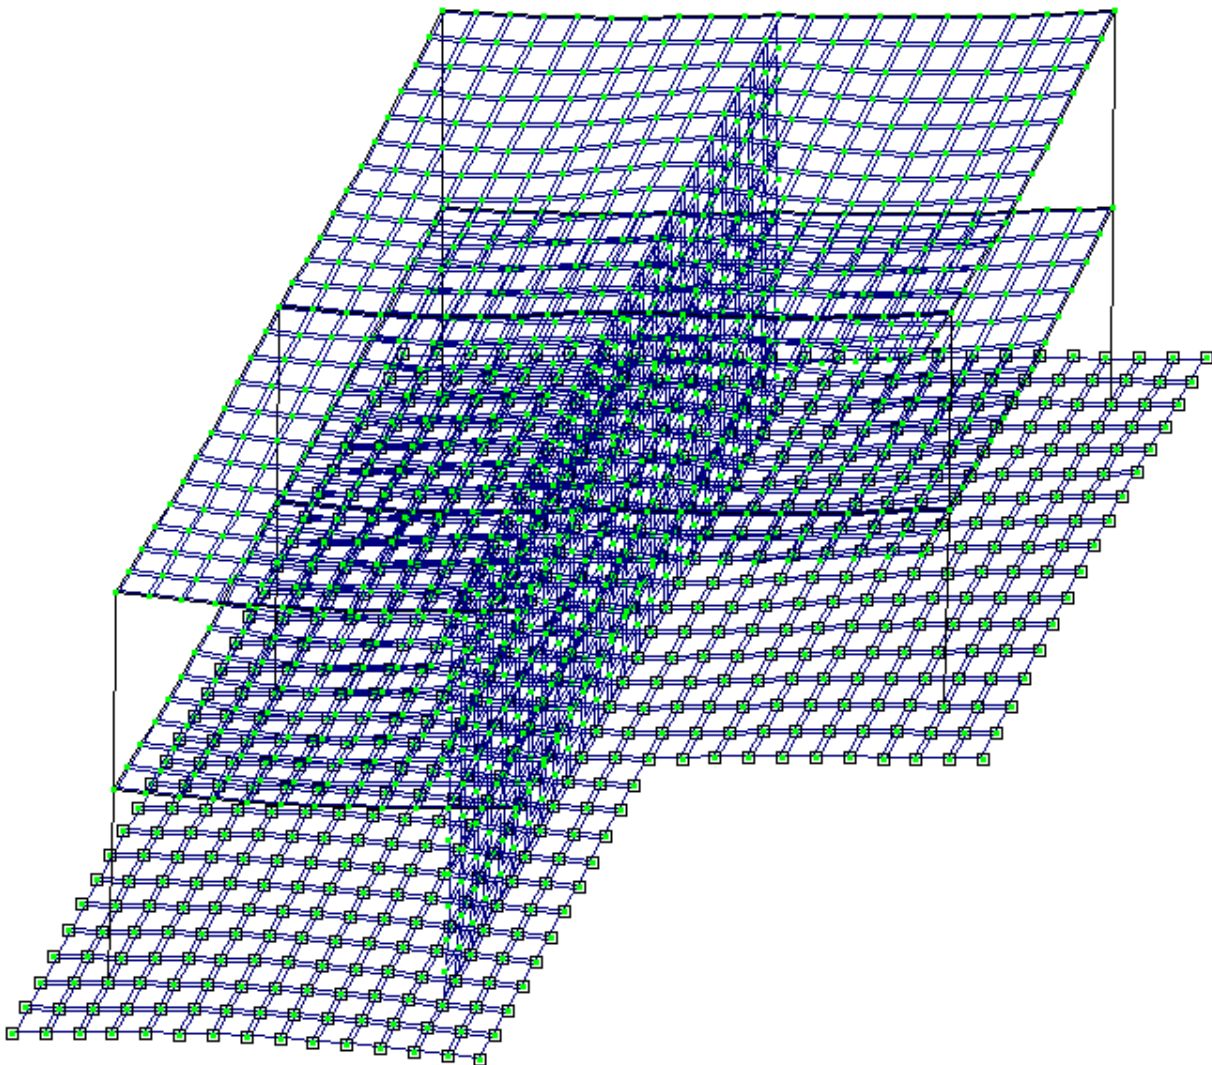

Figure 11.22 Design model with account of nodal displacements
- ⇒ In the mode of analysis results visualization, by default design model is presented with account of nodal displacements (see Fig.11.22).